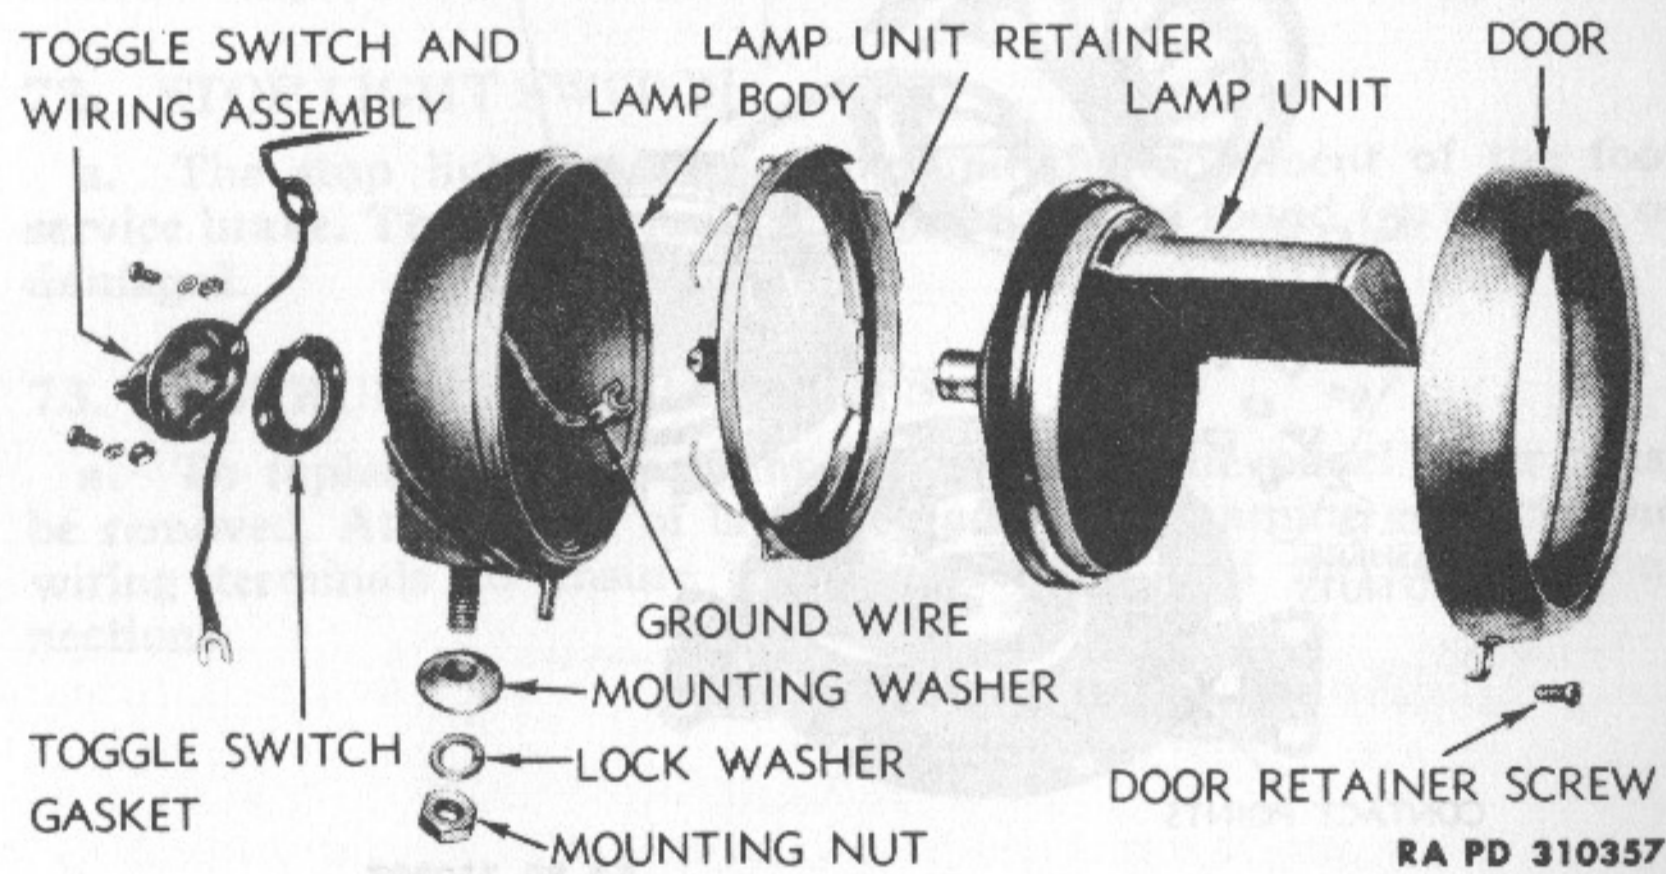

Figure 85—Blackout Headlight, Disassembled
a. The blackout headlight uses a sealed lamp-unit. Lamp housing is provided with a toggle switch to control blackout headlight separately when ignition-light switch is in blackout (second) position. Any parts badly damaged must be replaced. For correct order of assembly, refer to figure 85.